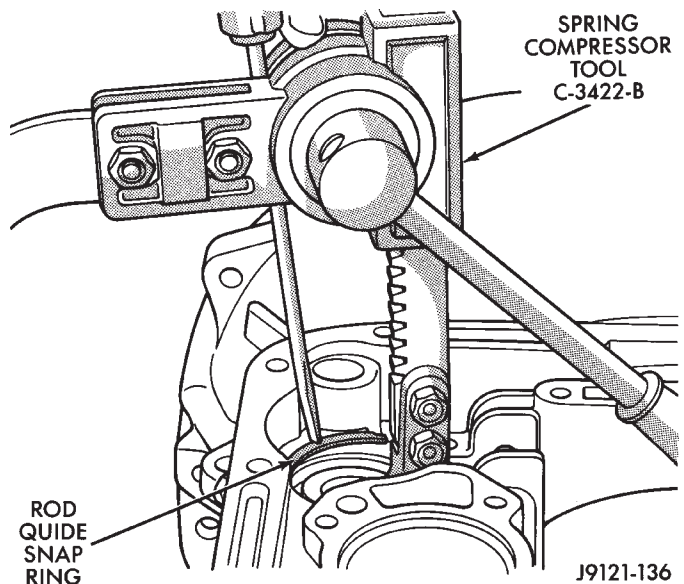
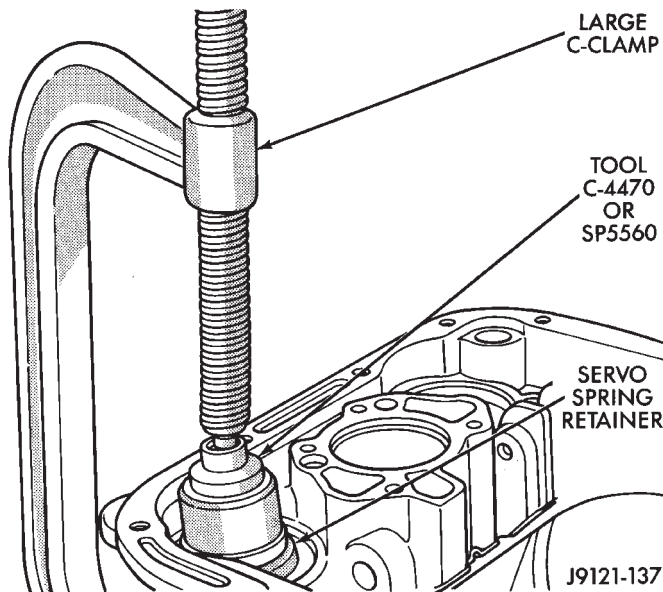

Fig. 28 Compressing Front Servo Rod Guide
Fig. 29 Compressing Rear Servo Spring
(43) Compress front servo rod guide about 3 mm (1/8 in.) with a large C-clamp and tool C-4470, or Compressor Tool C-3422-B (Fig. 28).
(44) Remove front servo rod guide snap ring (Fig. 28). **Exercise caution when removing snap ring. Servo bore can be scratched or nicked if care is not exercised.**
(45) Remove compressor tools and remove front servo rod guide, spring and servo piston.
(46) Compress rear servo spring retainer about 1.5 mm (1/16 in.) with C-clamp and Tool C-4470 or SP-5560 (Fig. 29). Valve Spring Compressor C-3422-B can also be used to compress spring retainer.